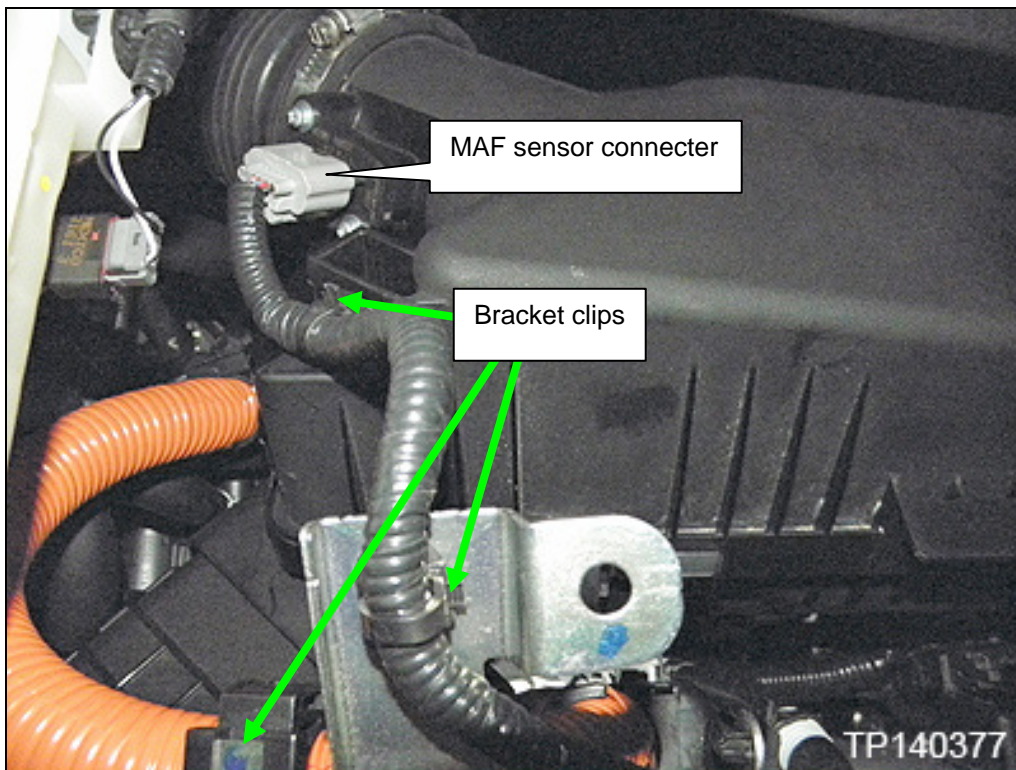

Figure 7
13. Disconnect the MAF sensor connector from the MAF sensor and then unclip the harnesses from the Brackets (shown in Figure 7).